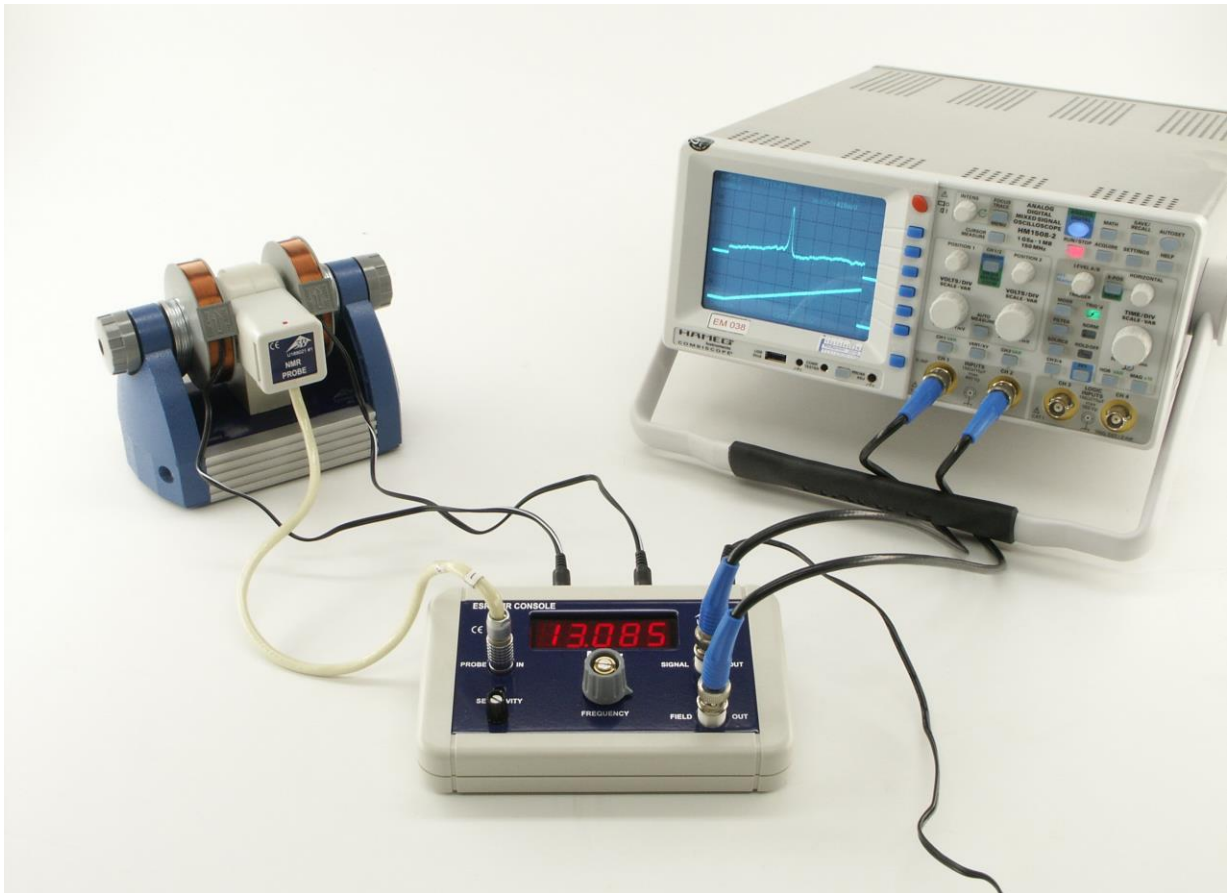

Fig. 12 Experiment set-up featuring NMR unit with an oscilloscope
- Connect the “SIGNAL OUT” socket of the control console to channel 1 of the oscilloscope and the “FIELD OUT” output to channel 2 (see Fig. 12).